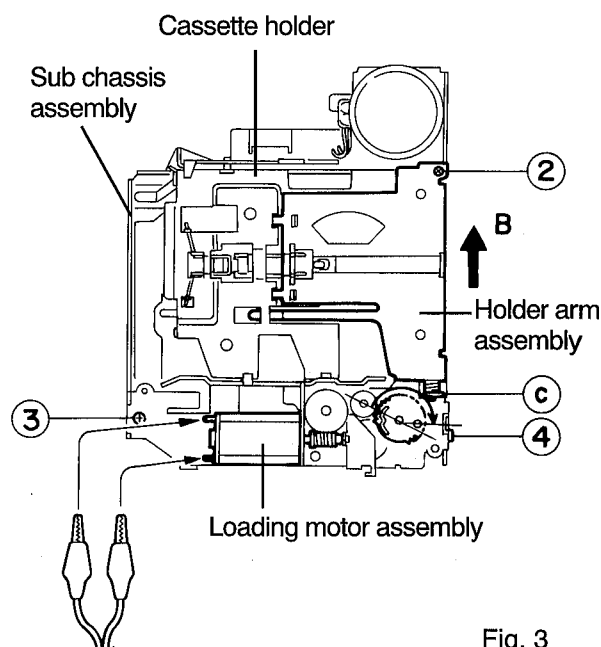

Fig. 3
■ Removing the Cassette Holder and Holder Arm Assembly (See Fig. 3)
3. Apply DC 6V to the lead wire of the loading motor assembly and turn the load gear assembly to the position shown in Fig. 3.
4. Remove the screw ② securing the cassette holder and holder arm assembly.
5. Shift the cassette holder and the holder arm assembly in the direction shown by the arrow "B" and remove them from the interlocking section ③ of the sub chassis assembly.
■ Removing the Sub Chassis Assembly (See Fig. 3)
5. Remove the two screws (③ ④) securing the sub chassis assembly.